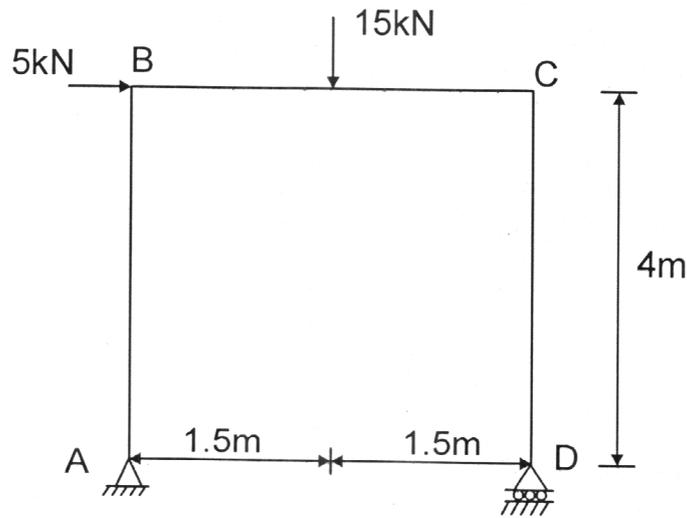

Fig. 1
b) A portal frame ABCD is hinged at A and roller support at D. The frame carries loading as shown in fig. 1 using Costigliano's first theorem. Find horizontal deflection at roller support D. Take $EI = 35 \times 10^3 \text{ kN/m}^2$. 15